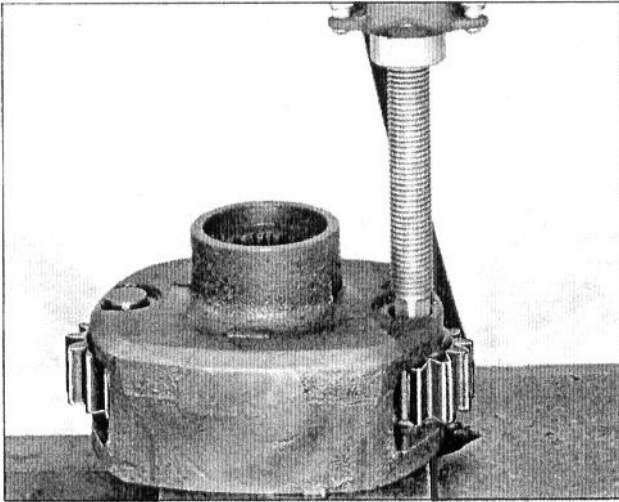

Fig. 95 - Planetary Pinion Shaft Removal
a. Remove the snap ring from the pinion shaft and press the shaft out as shown in Fig. 95.
Fig. 95. Position the two rows of needle bearings in each pinion. Use a heavy grease or petroleum jelly to hold them in place (29 needles in each row). Place a spacer washer between the two rows. Fit the pinion with needle bearings and thrust washers into place in the planetary carrier, then press the pinion shaft into place. Install the snap ring(s) on the pinion shaft.